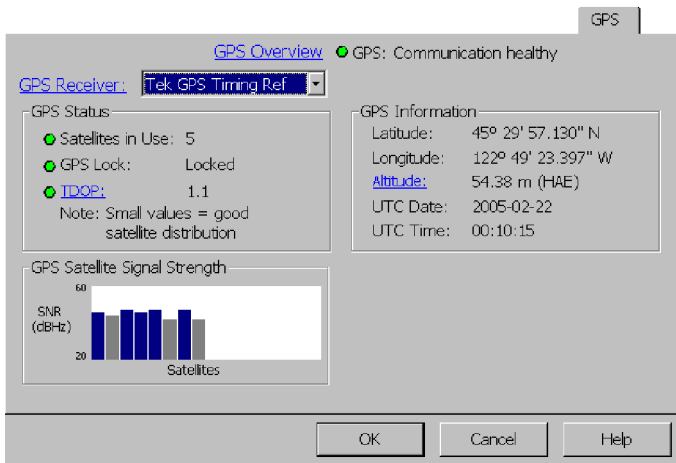

Figure 2-18: The GPS tab
2. Tap the  status button to open the GPS tab. See Figure 2-18.